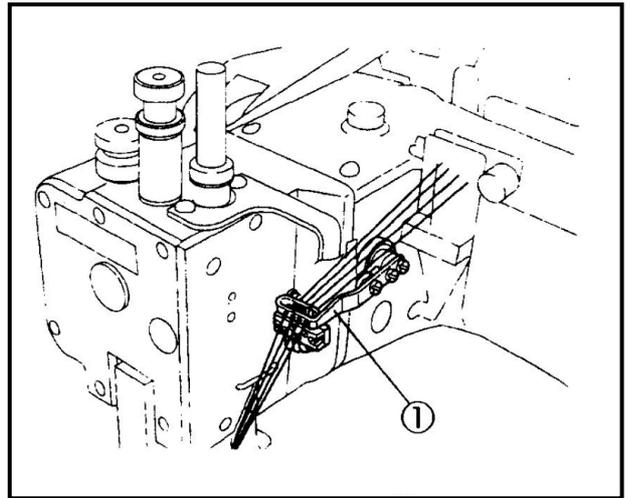

Fig.36
- (1) 抬線架 ① 轉到最低位置。(Fig.36)
- (1) Position the needle thread take-up ① at the lowest point. (Fig.36)